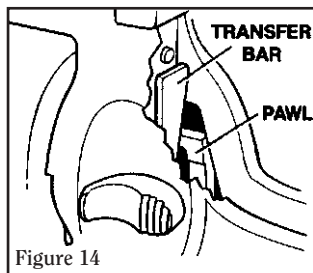

Figure 14
2. Hook the front of the trigger guard into the recess in the frame (see Figure 12, p. 21). Align the pawl in its recess in the frame and be sure the transfer bar is in the correct position in the rear of firing pin. Swing the trigger guard upward into position in the frame then allow the latch to re-engage. If solid resistance is felt when swinging the trigger guard into the frame, or if the trigger guard will not lock into position, re-check the position of the pawl and transfer bar (see Figure 14).